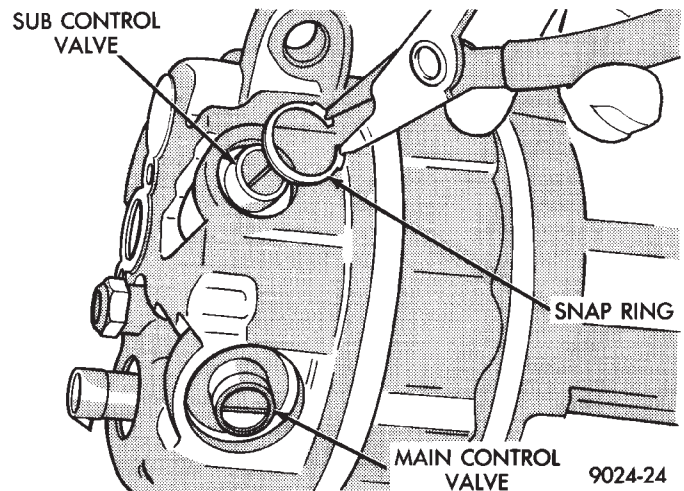

Fig. 10 Main or Sub Control Valve Snap Ring
- (1) Discharge the refrigerant system.
- (2) Remove the compressor assembly. Position it to gain access to the control valves. It is not necessary to disconnect the suction or discharge lines from the compressor.
- (3) Remove the snap ring retaining either the main or sub control valve to the compressor (Fig. 10).